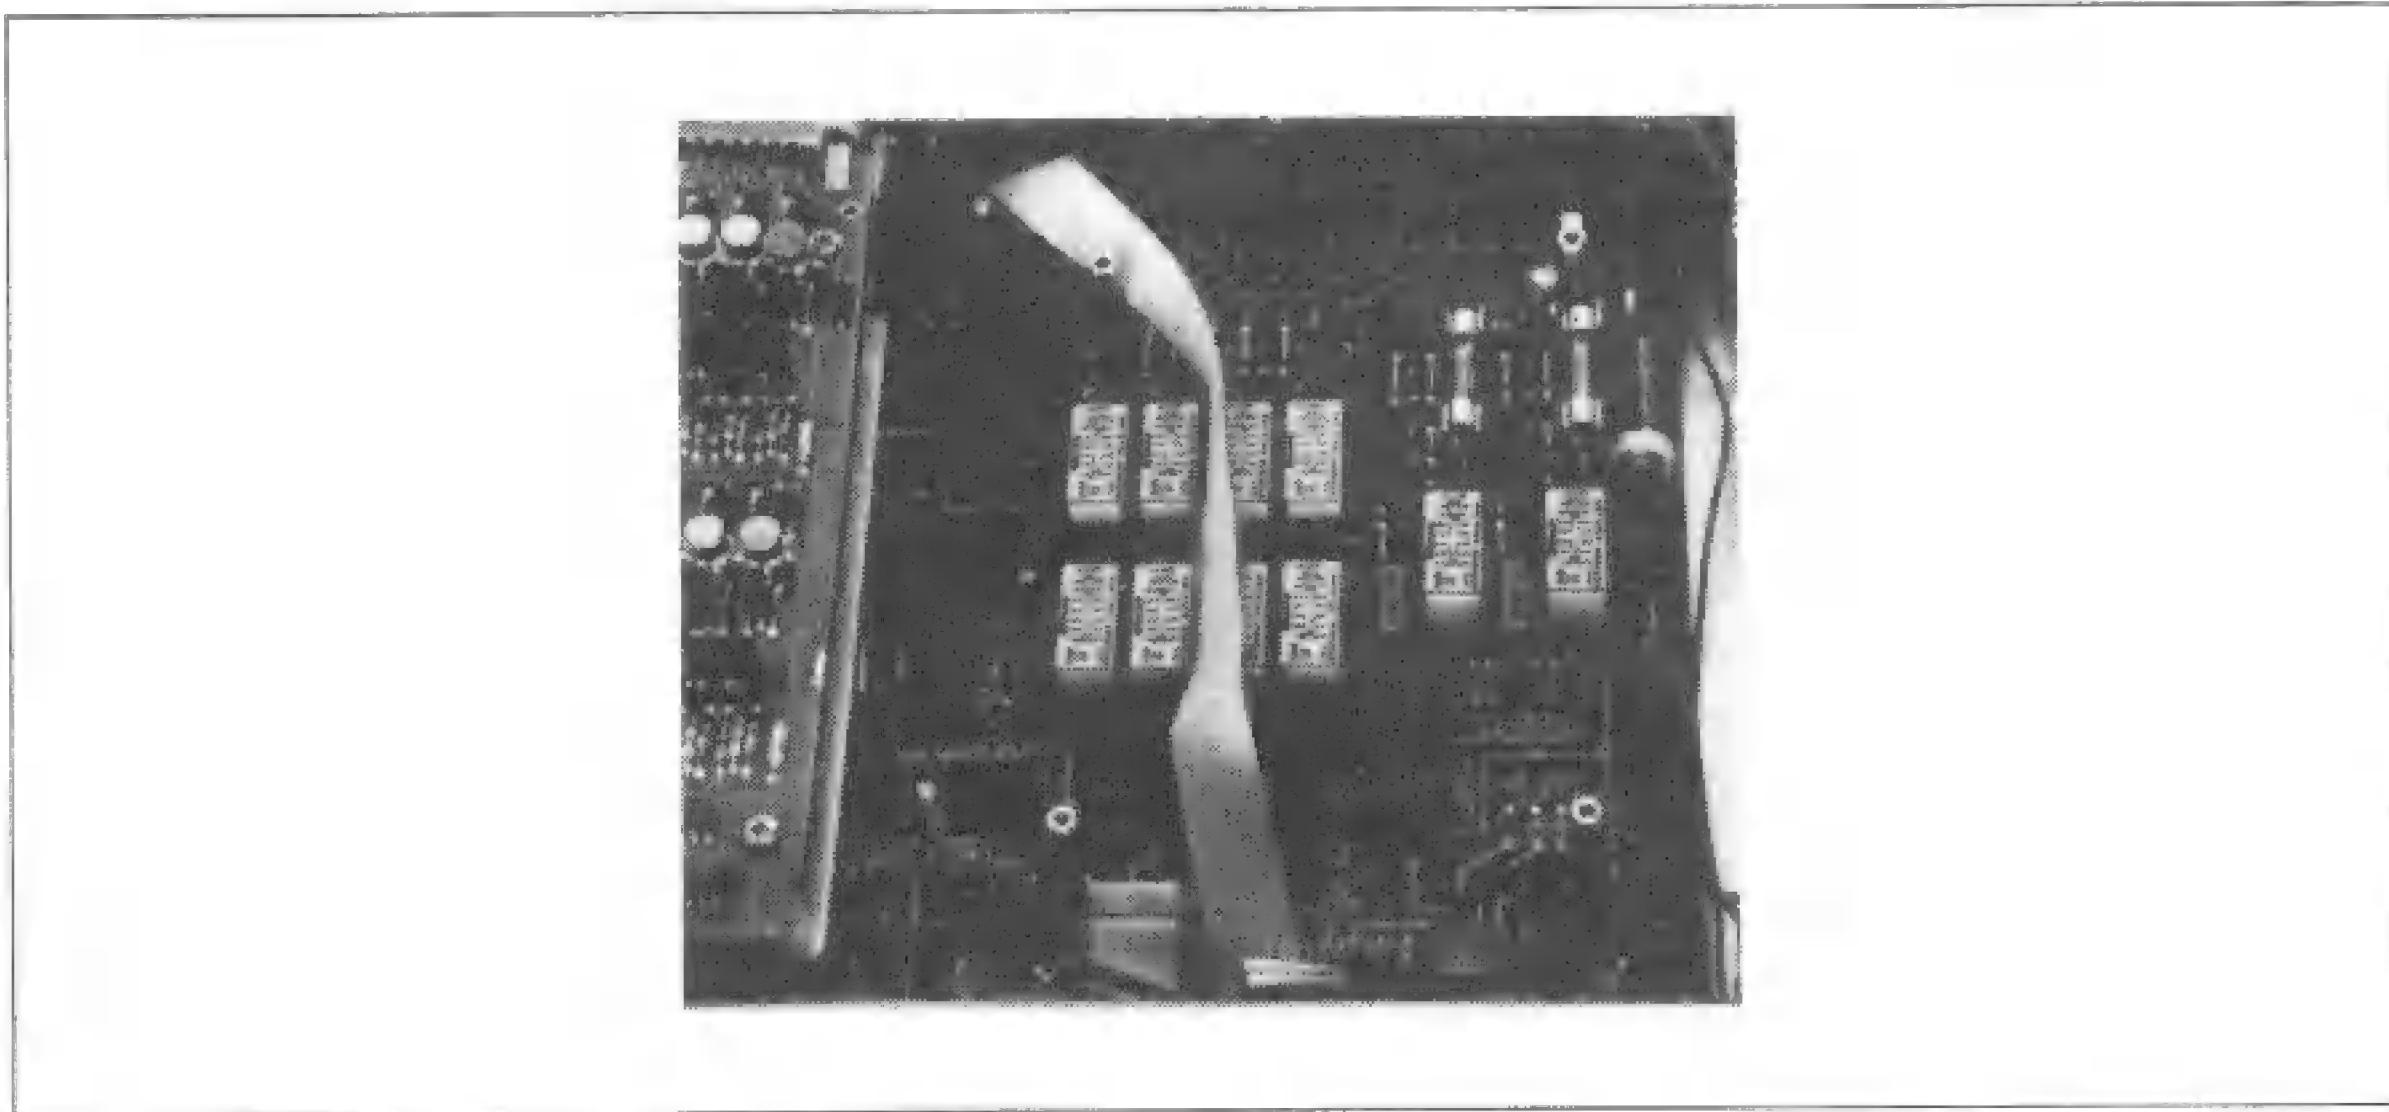

**Figure 3-2-7. Slot 0 Option Cable Routing**
- b. Route the ribbon cable for the slot 0 option as shown in Figure 3-2-7.